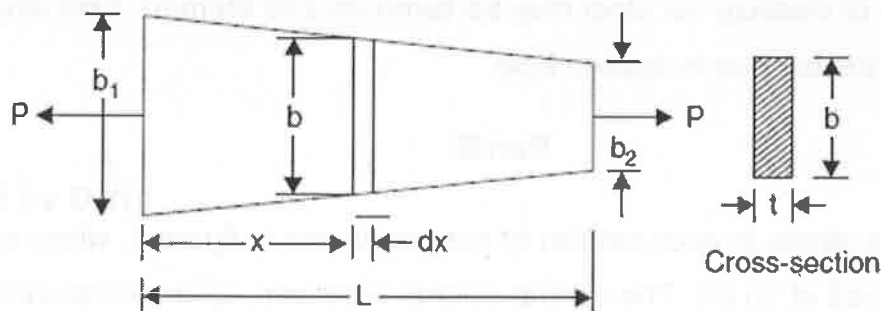

Fig.3
6. (a) A bar of uniform thickness t tapers uniformly (shown in figure 3) from a width b_1 at one end to b_2 at the other end in a length L . Find the expression for its extension under an axial pull P . (4 Marks)